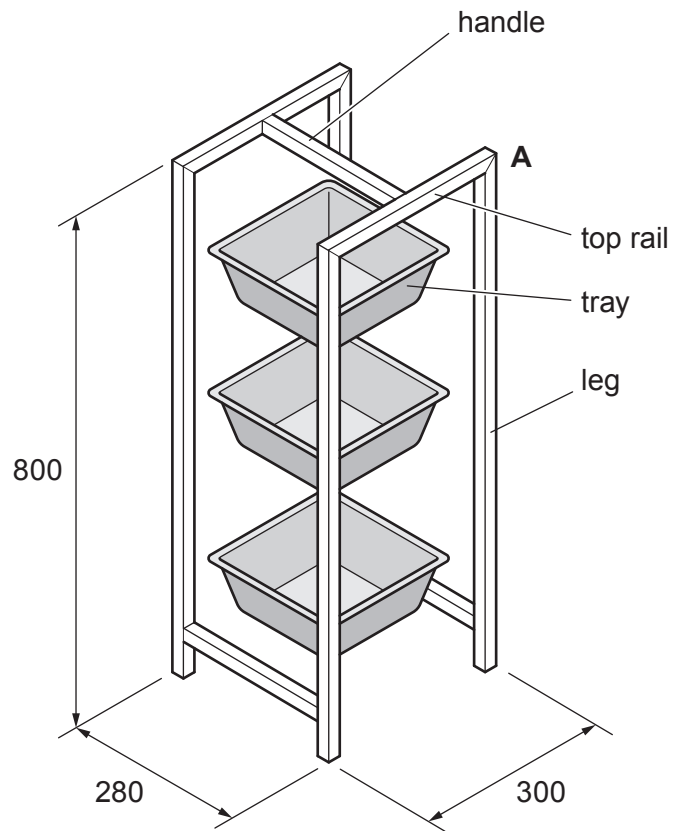

Fig. 12.1
- 12** Fig. 12.1 shows an incomplete design for a rack to store items of equipment used for cycle maintenance. Three trays will be supported inside the rack.